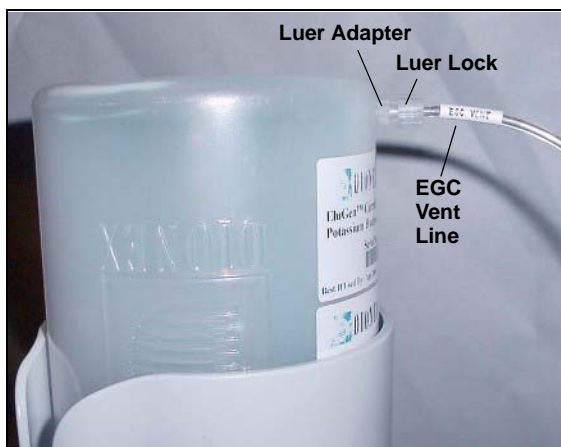

Figure 5-31. EluGen Cartridge Vent Line and Luer Fitting
4. Remove the EluGen cartridge **VENT** line (see Figure 5-31) from the EluGen cartridge by unscrewing the luer lock from the luer adapter.